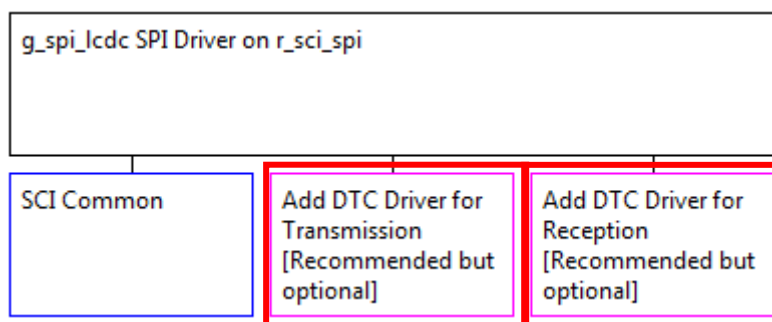

Figure 45 Transfer Drivers Placeholders
30. After removing the drivers, the placeholders for adding drivers will remain as shown in Figure 45 below: